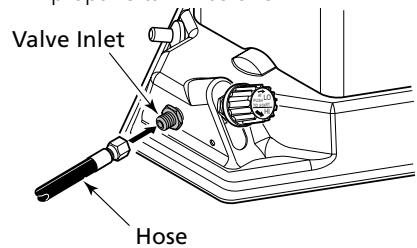

Figure 4 - Hose and Valve Inlet
4. With the control knob pushed all the way in, press and release the piezo ignitor button (See Figure 4). Keep pressing piezo ignitor button until the burner lights. Hold control knob down for a maximum of 10 seconds while attempting ignition. If heater does not ignite, release control knob and wait 3 minutes before attempting reignition.